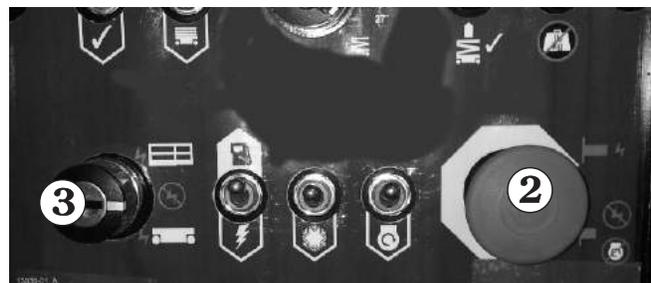

Figure 9.8
- At the ground control box set the EMERGENCY STOP switch ② to off, turn the MAIN POWER switch ③ off and remove the key (see Figure 9.8).